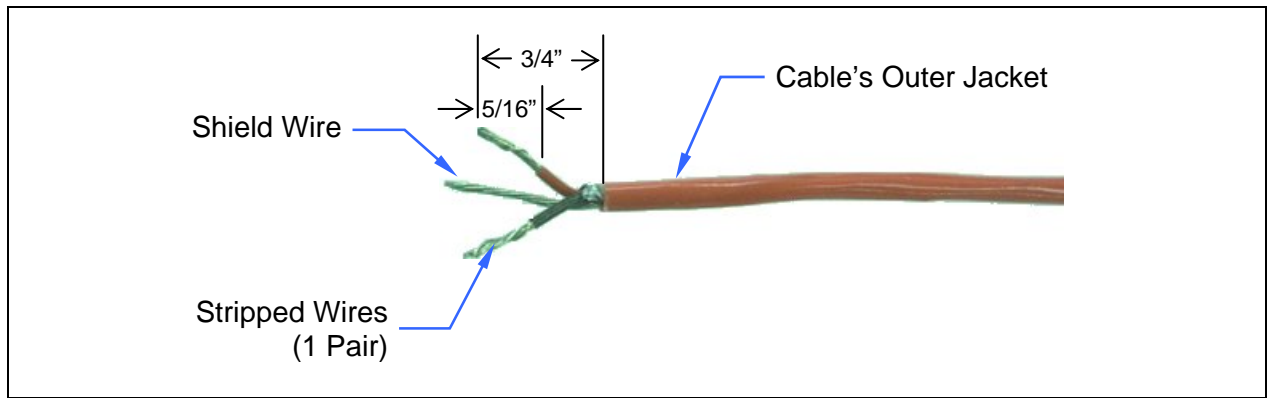

Figure 4-12: Dimensions for Stripping 3-Wire CAN Cables
11. With a 22-AWG wire stripper, strip off 5/16-inch of insulation from each individual wire in the shielded pair. The third wire in the cable is the shield ground wire—do not cut it. See Figure 4-12.